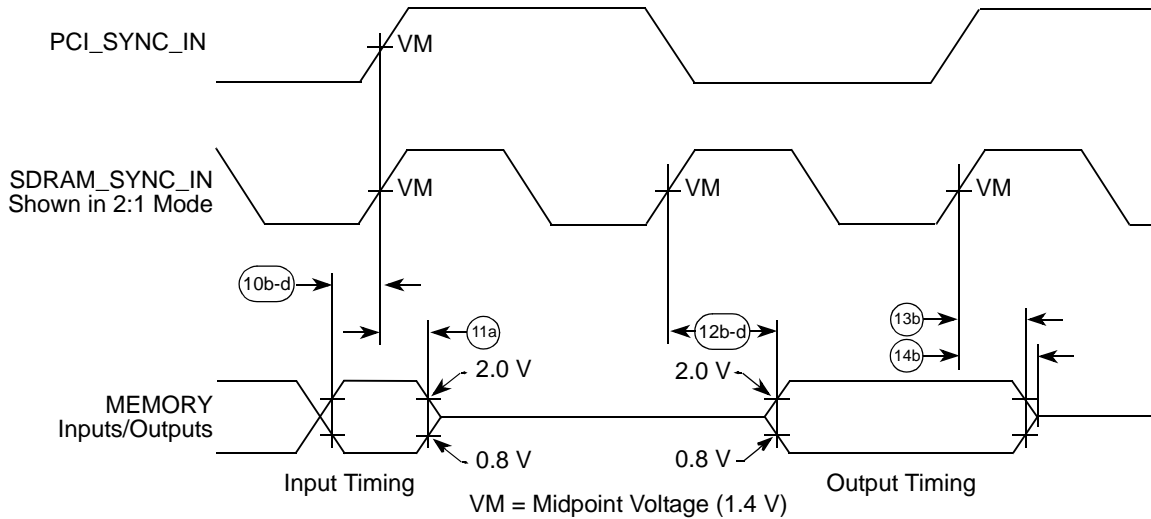
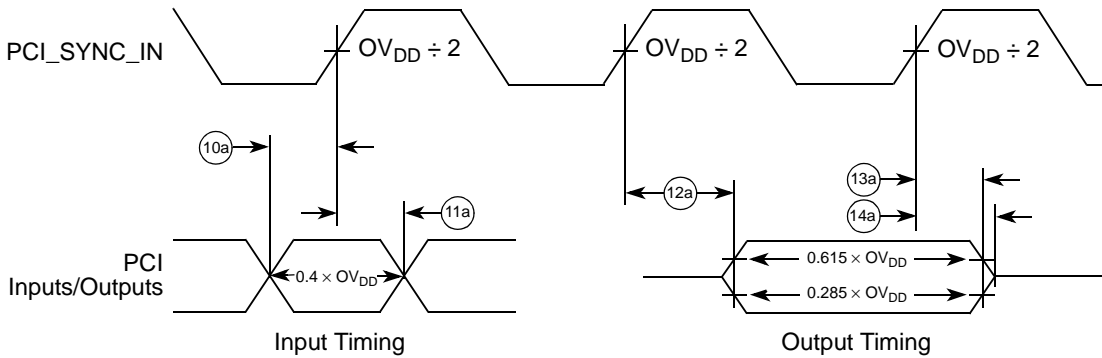
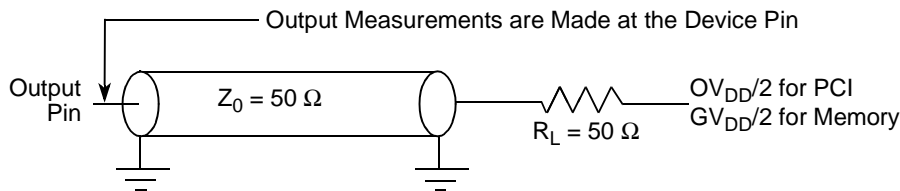

Figure 8. Input-Output Timing Diagram Referenced to SDRAM_SYNC_IN
Figure 9. Input-Output Timing Diagram Referenced to PCI_SYNC_IN
Figure 11. AC Test Load for the MPC8240
Table 8 provides the input AC timing specifications. See Figure 8 and Figure 9 for the input-output timing diagrams referenced to SDRAM_SYNC_IN and PCI_SYNC_IN, respectively.
- All memory and related interface input signal specifications are measured from the TTL level (0.8 or 2.0 V) of the signal in question to the $V_M = 1.4\text{ V}$ of the rising edge of the memory bus clock, SDRAM_SYNC_IN. SDRAM_SYNC_IN is the same as PCI_SYNC_IN in 1:1 mode, but is twice the frequency in 2:1 mode (processor/memory bus clock rising edges occur on every rising and falling edge of PCI_SYNC_IN). See Figure 8.
- All PCI signals are measured from $OV_{DD}/2$ of the rising edge of PCI_SYNC_IN to $0.4 \times OV_{DD}$ of the signal in question for 3.3-V PCI signaling levels. See Figure 9.
Table 9 provides the processor bus AC timing specifications for the MPC8240. See Figure 8 and Figure 9 for the input-output timing diagrams referenced to SDRAM_SYNC_IN and PCI_SYNC_IN, respectively. Figure 11 shows the AC test load for the MPC8240.
- All memory and related interface output signal specifications are specified from the $V_M = 1.4\text{ V}$ of the rising edge of the memory bus clock, SDRAM_SYNC_IN to the TTL level (0.8 or 2.0 V) of the signal in question. SDRAM_SYNC_IN is the same as PCI_SYNC_IN in 1:1 mode, but is twice the frequency in 2:1 mode (processor/memory bus clock rising edges occur on every rising and falling edge of PCI_SYNC_IN). See Figure 8.
- All PCI signals are measured from $OV_{DD}/2$ of the rising edge of PCI_SYNC_IN to $0.285 \times OV_{DD}$ or $0.615 \times OV_{DD}$ of the signal in question for 3.3-V PCI signaling levels. See Figure 9.
- All output timings assume a purely resistive 50-Ω load (see Figure 11). Output timings are measured at the pin; time-of-flight delays must be added for trace lengths, vias, and connectors in the system.
- PCI hold times can be varied; see Section 1.4.2.4.1, "PCI Signal Output Hold Timing," for information on programmable PCI output hold times. The values shown for item 13a are for PCI compliance.